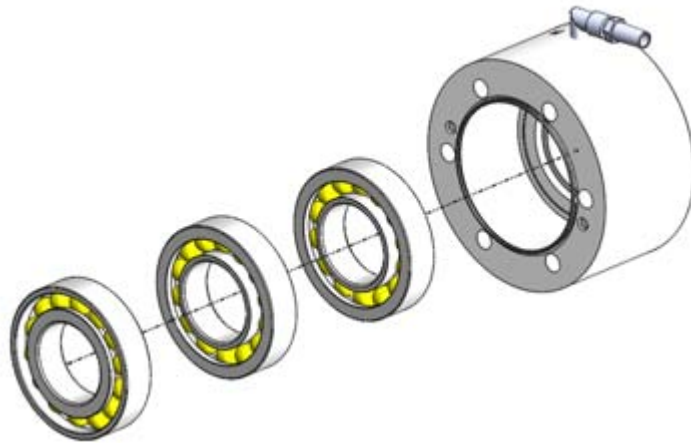

Figure 8. Removing the bearings from the bearing housing
12. Remove the bearings from the bearing housing by pressing them from the impeller side in accordance with figure 8 .